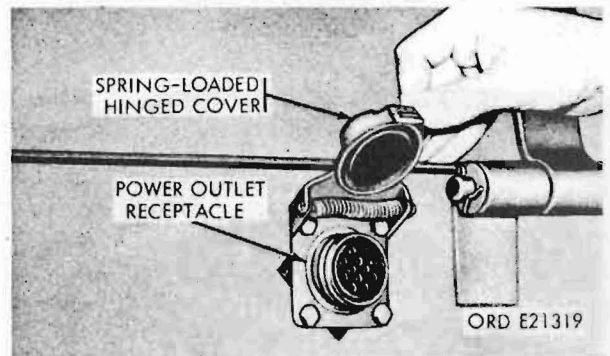

Figure 46. Trailer auxiliary power outlet receptacle
(32) Trailer auxiliary power output receptacle (fig. 46). The trailer auxiliary